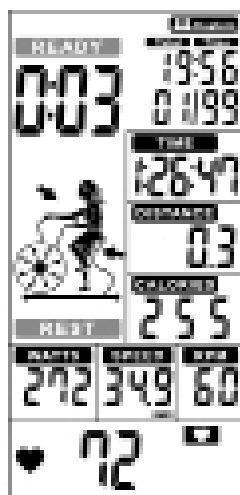
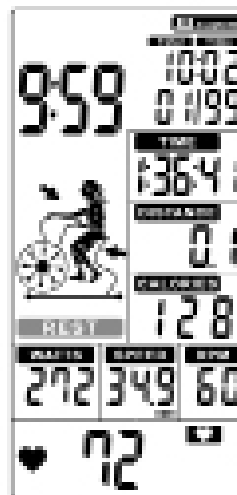

Figure 37
Figure 38
6. Cycle time counts down from and REST flashes once per second along with buzzer beeps(Figure 37), meanwhile READY will flash in last 3s(Figure 38).